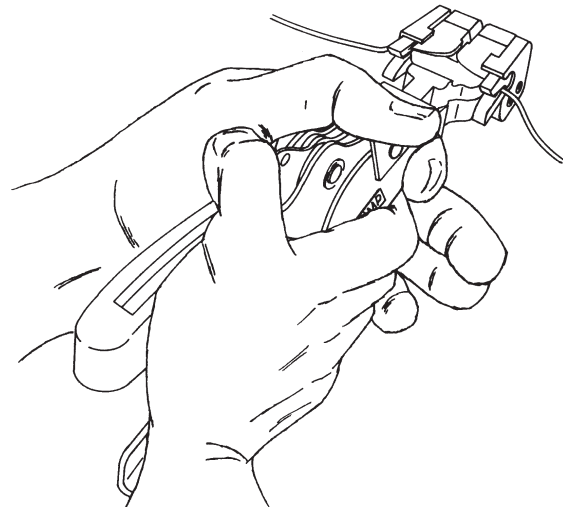

Figure 3
5. Place the tool in one hand so that the center portion of the handle is supported as indicated in Figure 1. Grasp the front portion of the handle and use the other hand to close the lever. See Figure 3. Squeeze the handle and lever until they fully close.